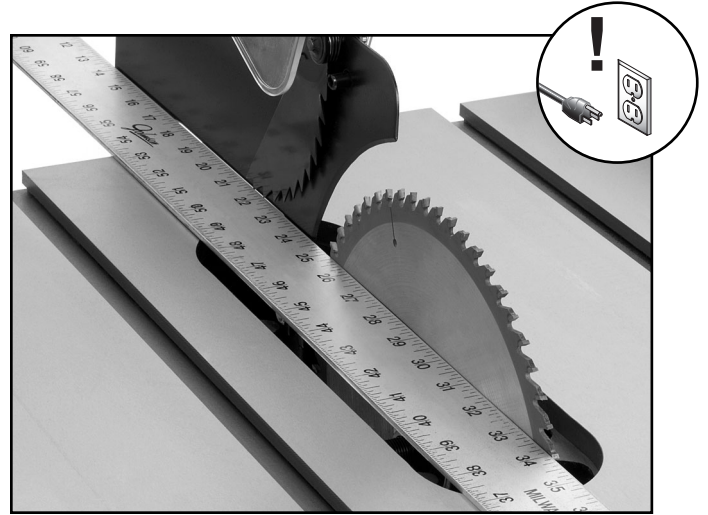

Figure 33. Checking alignment of blade guard.
7. Place a straightedge against the face of the saw blade and the blade guard (**Figure 33**).